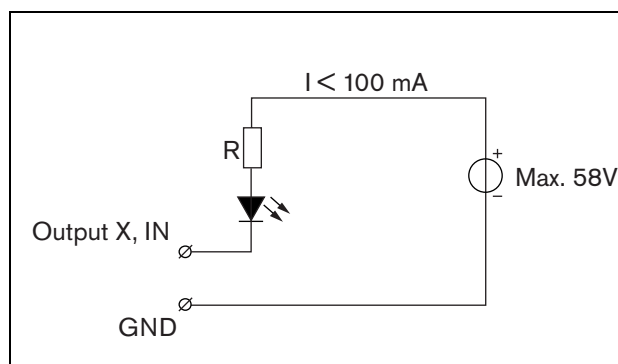

figure 15.8: Externally powered LED
- Externally powered lamp or LED. See figure 15.8 for a connection diagram.
The value of resistor R in figure 15.8 depends on the voltage of the external source, the forward voltage of the LED and the current flowing through the LED: